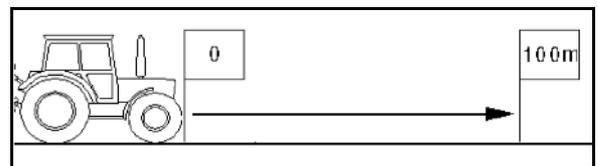

Fig. 30
- On the field, measure a calibration distance of exactly 100 m. Mark the start and end point of the calibration distance (Fig. 30).